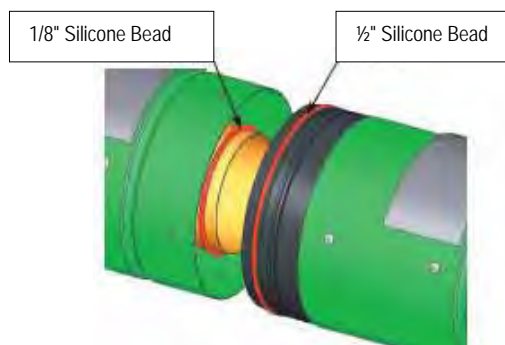

Figure 35 - Venting Silicone Sealant
High temperature (500F/260C) silicone sealant is required on all 3 in. diameter inside joints. Either high temperature or clear silicone sealant is recommended for the outer 5 in. outside joint. A 1/8 in. (3mm) bead, 1/2 in. (12mm) from the male (crimped) end of both sections of pipe is recommended. See Figure 35 - Venting Silicone Sealant. *Never use 1200F –1300F sealing cement.*
7. Attach the Vent Cap, note orientation of embossment, to the extended pipe. Use high temperature (500 F/260 C) silicone sealant between all pipe joints. See **Figure 35 - Venting Silicone Sealant**.